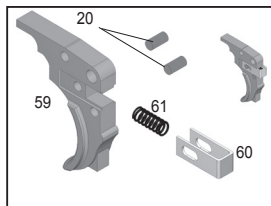
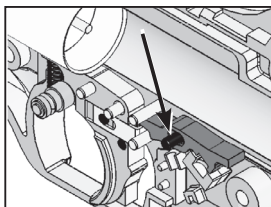

Figure 9: The Trigger is pulled from the right receiver half.
Figure 10: The black pin is hardened and must be installed in the position as shown.
1. Remove the **Trigger** (59) assembly from the receiver. Be sure to retain the trigger return **Spring** (61), located in front of the Trigger, and not shown in Figure 9, but is shown in the Schematic Diagram).
2. To remove the **Trigger Return Slide** (60) and the **Spring** (61), you must first remove the upper **Return Slide Dowel Pin** (20) from the Trigger assembly.
3. When re-assembling the Trigger and Sear, make sure the black **Sear Dowel Pin** (4) is in the location shown (see arrow in Figure 10). The black pin is hardened, and it is critical that it is located in this position.